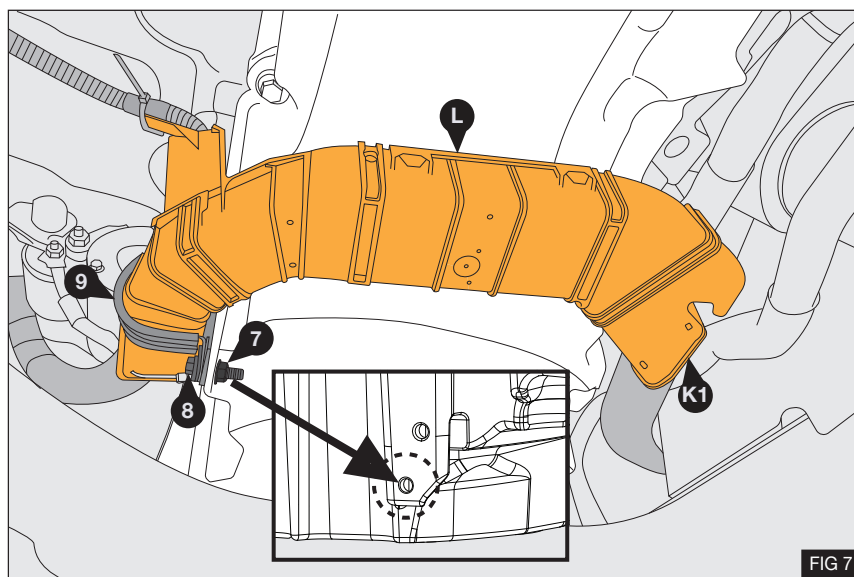

FIG 7
2. Fit the modified carrier (L) securing it with the original fastener (K1) - Fig 7
3. Using the P clamp (9) with M6 x 25 bolt (8) and nut (7) secure the carrier (L) to the oil pan at the position shown - Fig 7